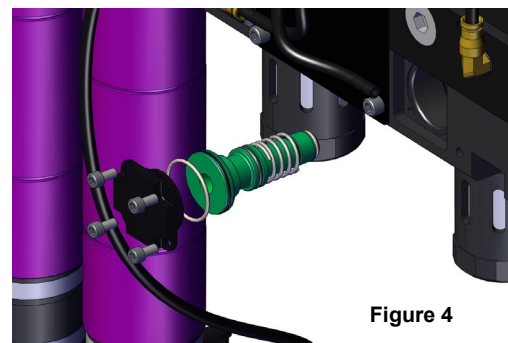

Figure 4
- Using a 4mm hex key wrench, remove the four socket head cap screws holding the piston cover in place. Figure 4
- Using a finger or a 1/2-13 bolt, remove the piston from the piston bore. Be sure to remove the piston spring. Figure 4
- Using a 4mm hex key wrench, replace the four socket head cap screws holding the piston cover in place. Tighten until snug, then add 1/4 turn. Figure 4